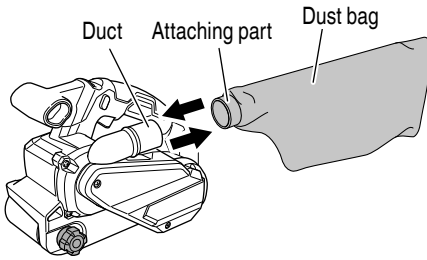

Fig. 10
5. Attaching and removing the dust bag (Fig. 10)